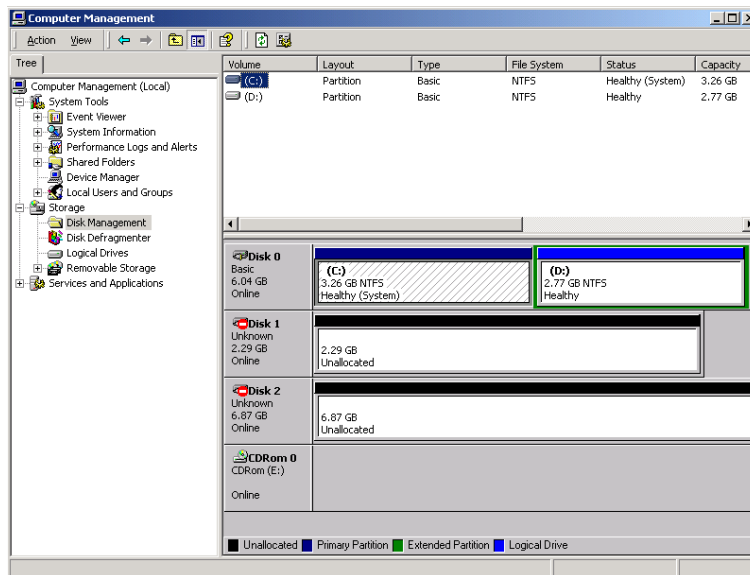

Figure 3.1 Disk Management Panel showing New Devices
To write the signatures on the new disk devices (see Figure 3.1):
5. After you write or decline to write a signature on each new device, the Disk Management main panel displays the devices by disk number (see Figure 3.1). The total capacity and free space are displayed for each disk device with a signature. **Configuration information not available** or an "Unknown" status indicates no signature. Do not exit the Disk Manager yet. You will create partitions on the new SCSI disk devices next.
4. After you write or decline to write a signature on each new device, the Disk Management main panel displays the devices by disk number (see Figure 3.1). The total capacity and free space are displayed for each disk device with a signature. **Configuration information not available** or an "Unknown" status indicates no signature. Do not exit the Disk Manager yet. You will create partitions on the new SCSI disk devices next.